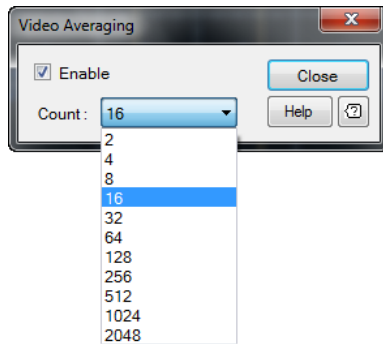

Figure 2-34 Averaging count selection on the Averaging dialog
- 4 To change the average count, select the **Count** field on the Averaging dialog to display the count selection as shown in Figure 2-34.